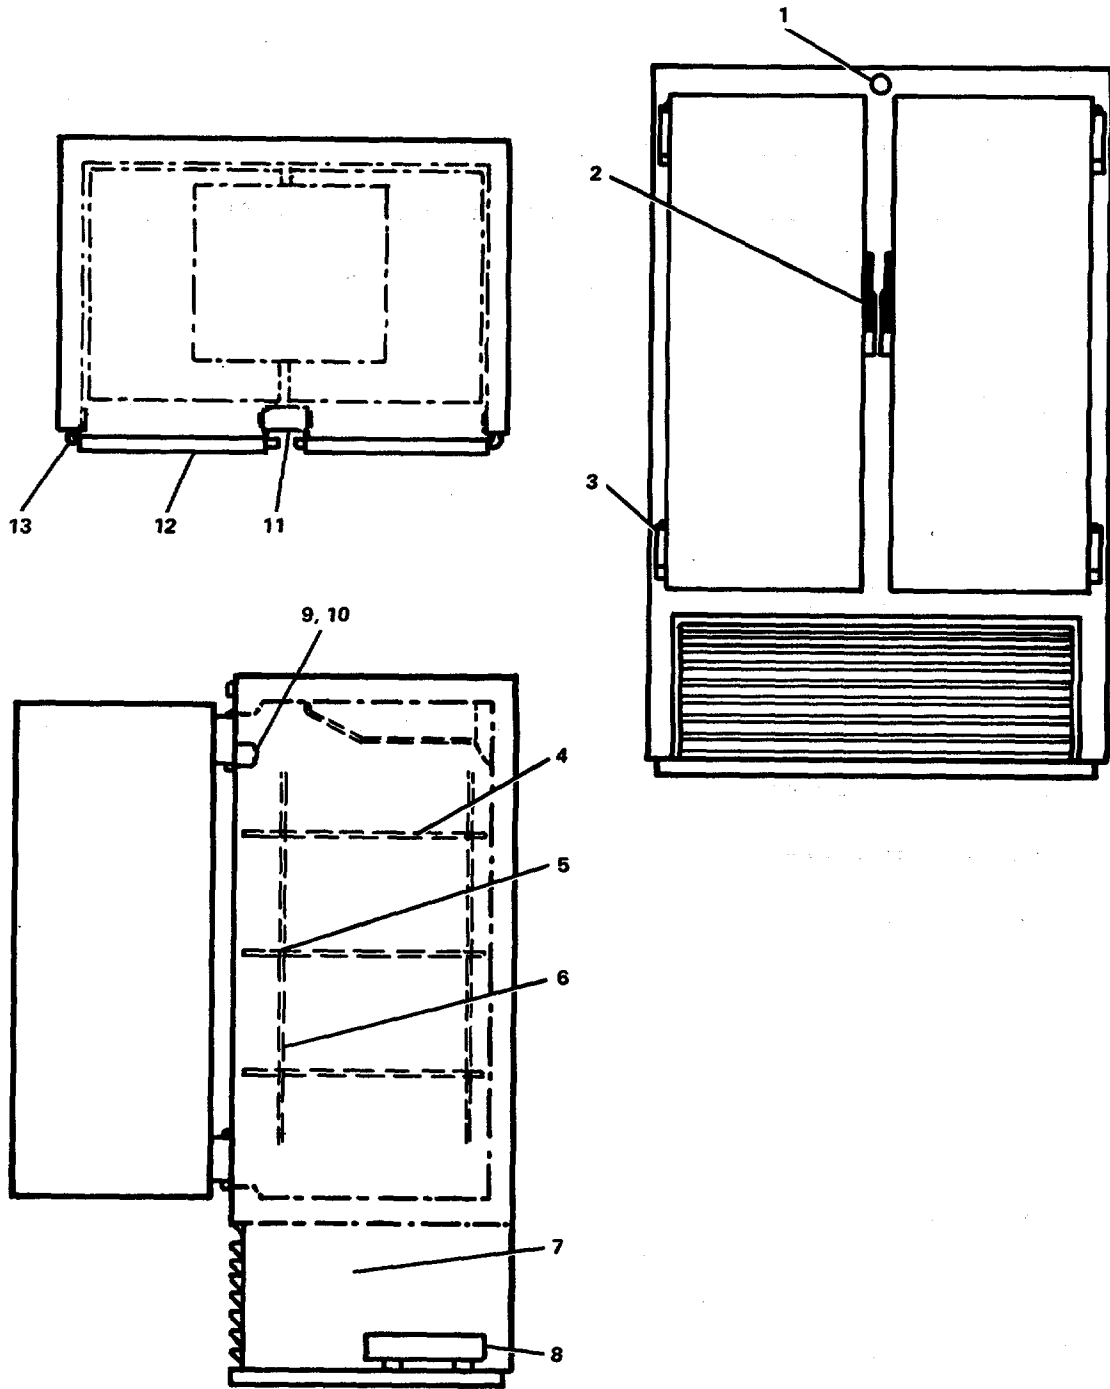

FIGURE 3-83. *Repair R-30 Refrigerator.*
**3-84. Repair R-30 Mechanical Refrigerator. (Figure 3-83)**